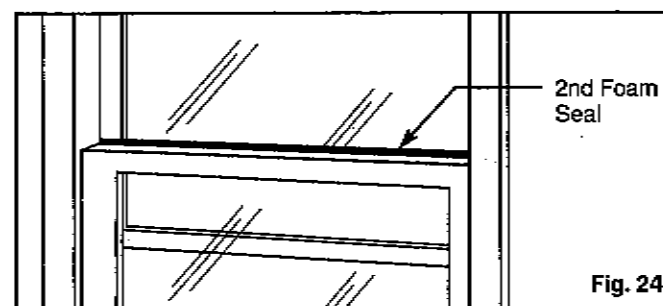

Fig. 24
- Cut the **second foam seal** to fit the opening between the top inside and outside window. See Fig. 24.